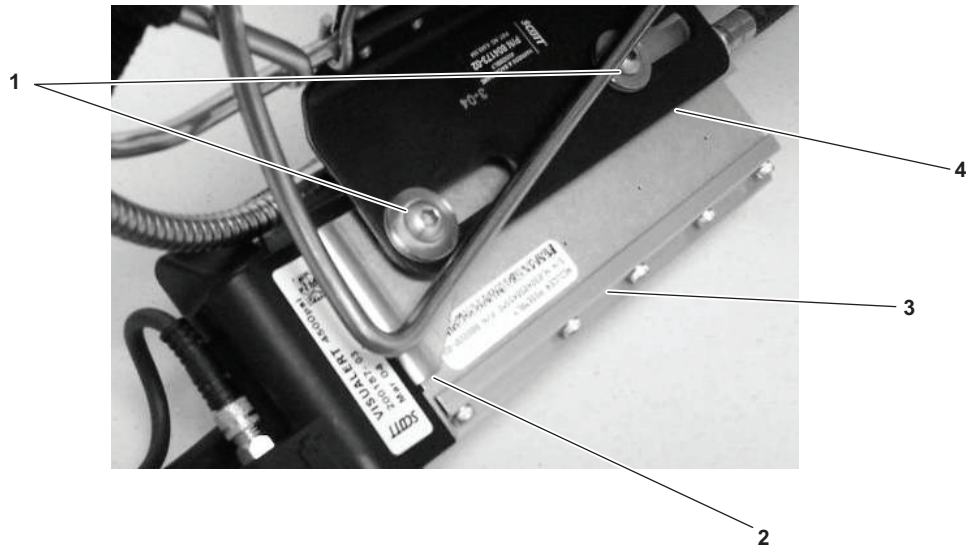
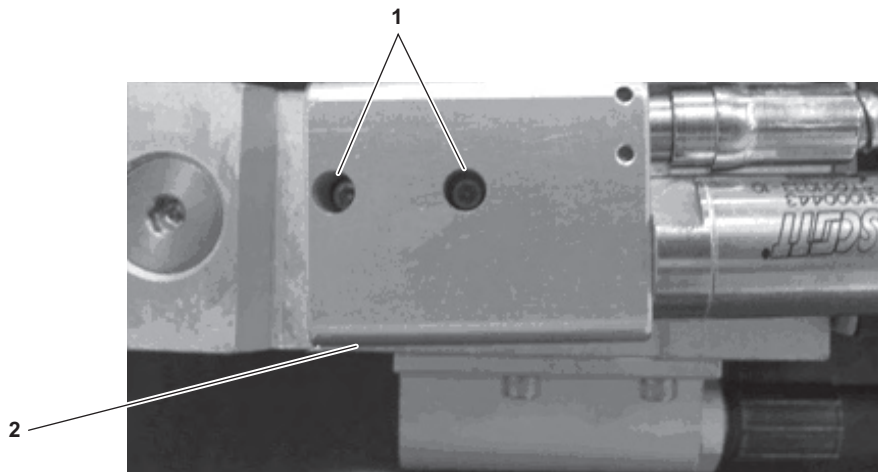

Figure 6-28. Visualert Removal
Figure 6-30. Visualert Mounting Block Removal
- (1) Bleed the system IAW paragraph 6.5.1.
- (2) Remove the cylinder assembly IAW paragraph 2.3.2.1 step a.
- (3) Using a 5/32 in. Allen wrench, remove the mounting screws, sliding washers, and spacers (figure 6-28, item 1) securing the Visualert bracket (figure 6-28, item 2) to the pressure reducer (figure 6-28, item 3) and mounting plate (figure 6-28, item 4). Set aside for installation.
- (5) Using 3/32 in. Allen wrench, loosen the two screws (figure 6-30, item 1) from the Visualert mounting block (figure 6-30, item 2).
- (6) Lift the Visualert mounting block (figure 6-30, item 2) from the pressure reducer (figure 6-28, item 3). Set the screws (figure 6-30, item 1) aside for installation.
- (7) Remove the mounting probe (figure 6-31) from the pressure reducer (figure 6-28, item 3) or the Visualert mounting block (figure 6-30, item 2), as applicable. Ensure cleanliness is maintained IAW PMCS (Chapter 4).
- (9) Using 3/32 in. Allen wrench, install two Allen screws (figure 6-30, item 1) to secure Visualert mounting block (figure 6-30, item 2) to pressure reducer.